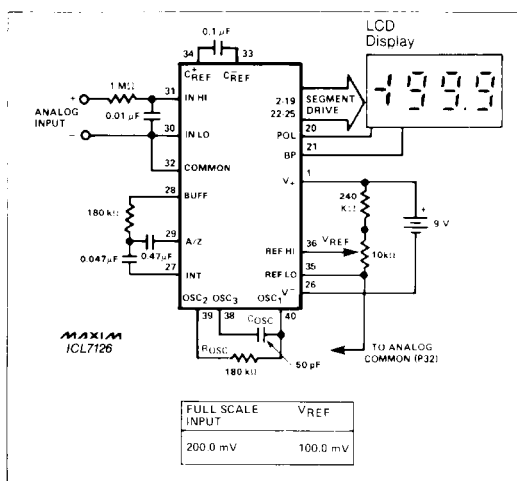

Figure 2. Maxim ICL7126 Typical Operating Circuit
**Note 6:** 48kHz oscillator, Figure 2, increases current by 20µA (typ).